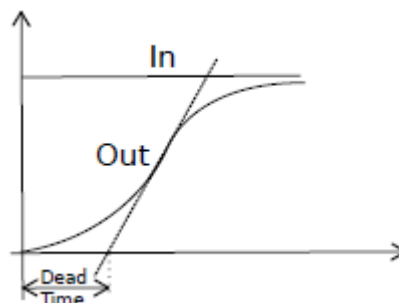

Figure 2: How to estimate dead time of a second-order system
- Lambda tuning requires us to measure the process dead time, this can be performed as illustrated in figure 2 and on page 197 in Thomas. First, find the steepest part of the step response curve. Second, draw a tangent to this part of the curve. Last, measure the
Estimate the dead time and time constant as illustrated in Figure 2, also estimate the amplification and then get A_m and ω_π from Matlab. Use the following matlab commands to calculate A_m and ω_π .